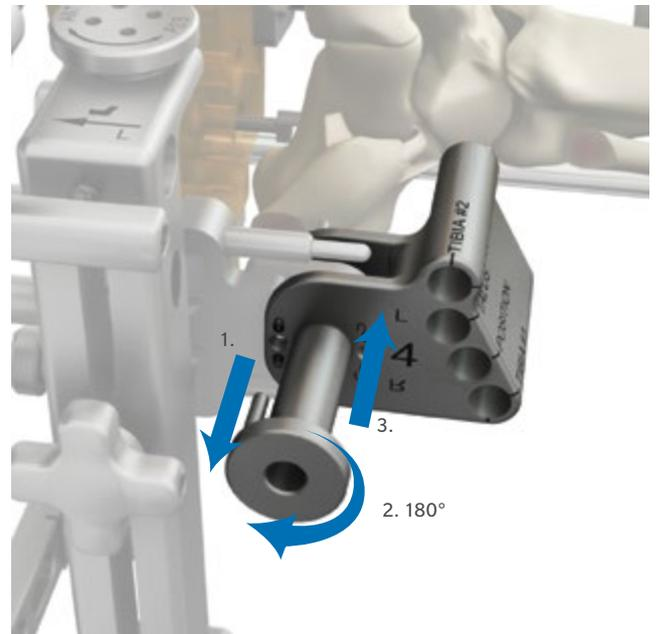

Fig. 37
- Pull the Cut Guide Pin and rotate it 180° so that the peg engages the proximal hole in the Cutting Guide (Fig. 37).